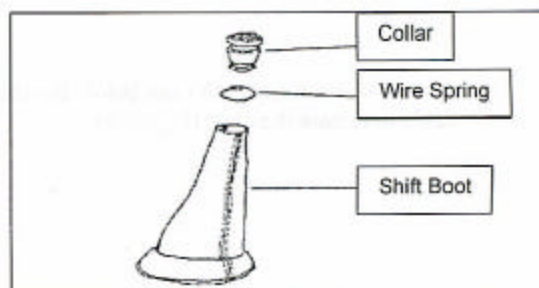

Figure 8
13. Turn the shift boot inside out. Remove the wire retaining spring and the plastic collar (Figure 8). The spring and collar will not be reused since the shaft of the new shift mechanism is larger than the original one.